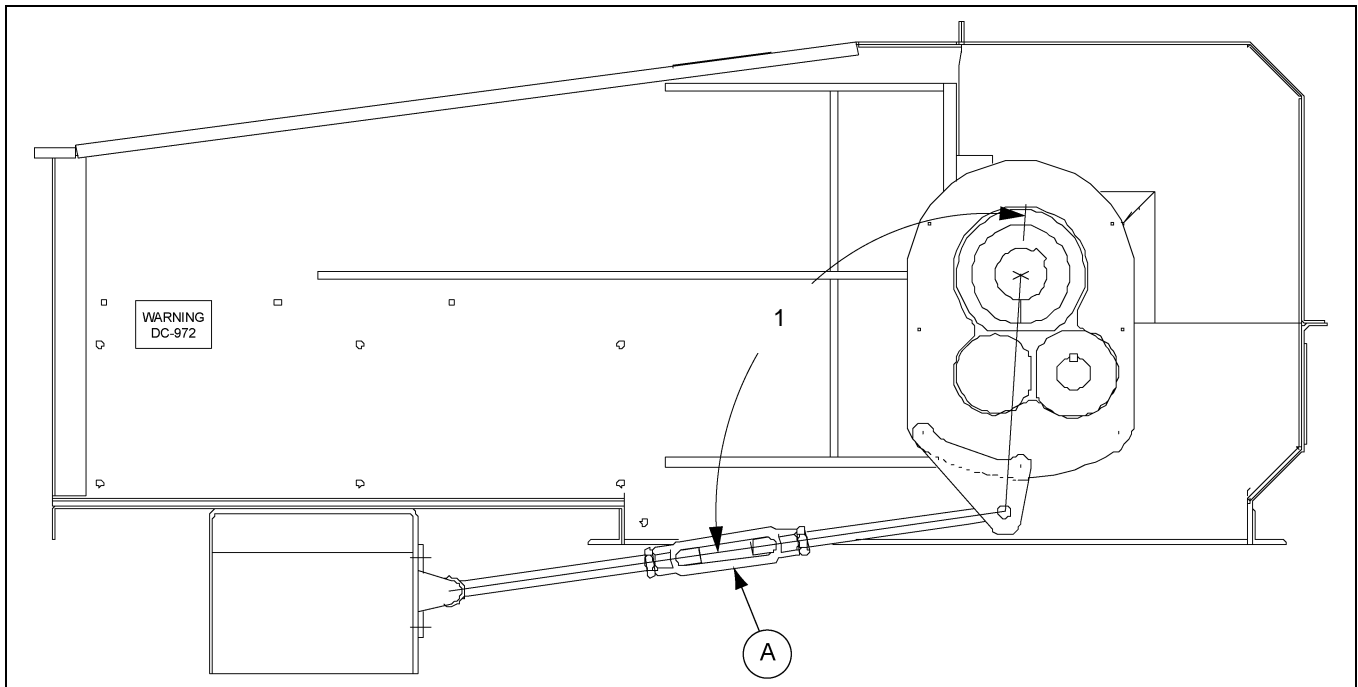

Figure 4K Torque Arm Bracket Installation
NOTE: *When installing torque arm bracket keep angle (1) of torque arm and reducer between -15° and $+15^{\circ}$ of 90° per manufacturer's recommendations. This angle is shown in Figure 4K.*